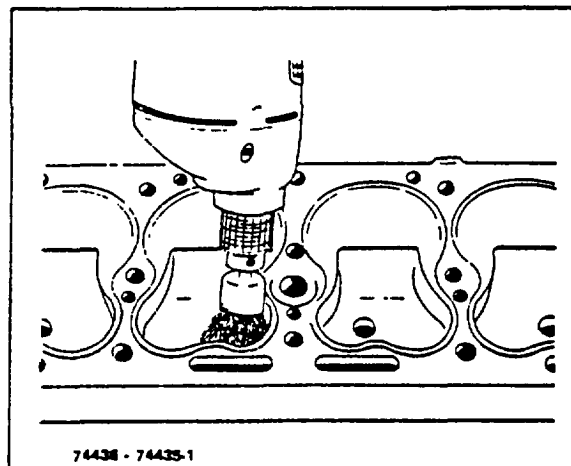

Figure 5-1. Cleaning Carbon from Combustion Chamber
1. Using a scraper and wire brush, remove all carbon from combustion areas. See Figure 5-1.
2. Clean the cylinder head thoroughly Figure 5-1. Cleaning Carbon from Combustion Chamber with an acceptable cleaning solvent and dry thoroughly with compressed air.